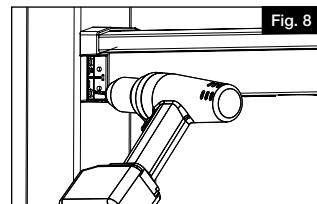

Fig. 8
- Make sure rails centered to post sleeve. Then, using $\frac{1}{8}$ " drill bit, pre-drill first top bracket screw hole (Fig. 8). Drill through bracket hole, vinyl post sleeve and vinyl insert and loosely install first #10 x $1\frac{1}{2}$ " screw.
- Repeat pre-drilling process for remaining three screws (Fig. 8).